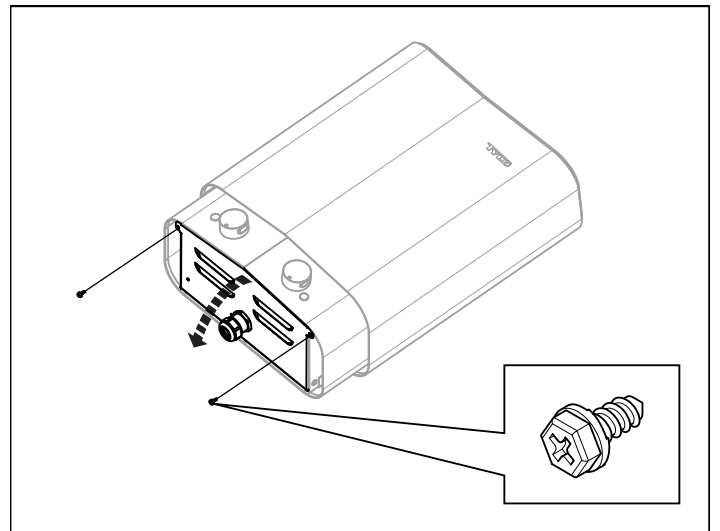

Figure 5: Opening/closing the cover
2. Undo the screws and open the cover (see Figure 5).
4. Close the cover and tighten the screws (see Figure 5).